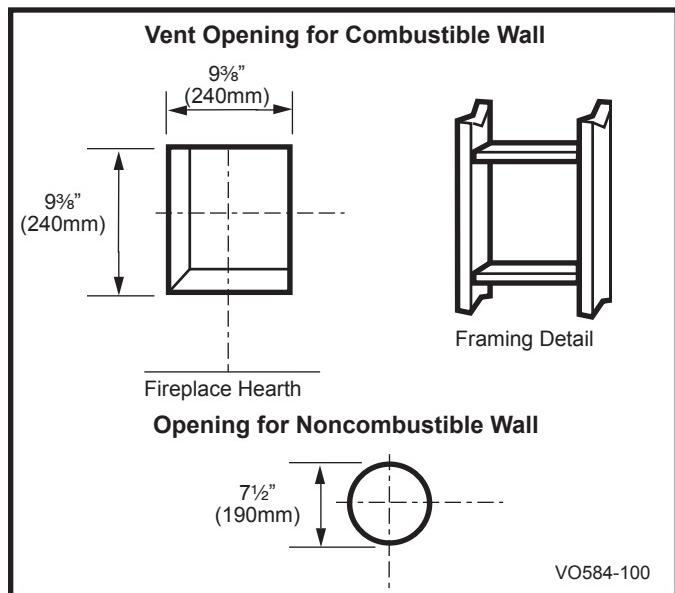

Fig. 27 Locate vent opening on wall.
Locate vent opening on the wall. It may be necessary to first position the fireplace and measure to obtain hole location. Depending on whether the wall is combustible or noncombustible, cut opening to size. (Fig. 27)
Combustible Walls (Fig. 27): Cut a $9\frac{3}{8}''$ H x $9\frac{3}{8}''$ W (240 x 240 mm) hole through the exterior wall and frame.
Noncombustible Walls (Fig. 27): Hole opening must be 7.5" (190 mm) in diameter.
1. Establish vent hole through the wall. (Fig. 27)